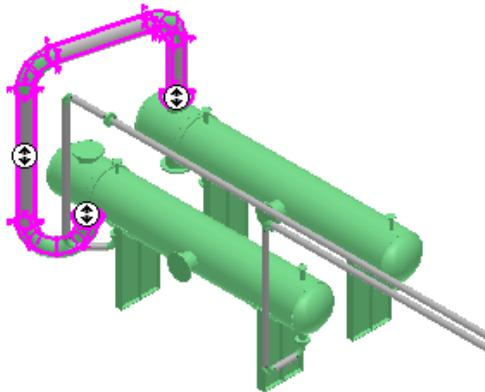

Figure 25: Pipe Run
2. Select the pipe run in the pipeline **403-P**, as shown in Figure 25. This pipe run name is set to **User Defined** to demonstrate the behavior on object names after the Copy/Paste operations.